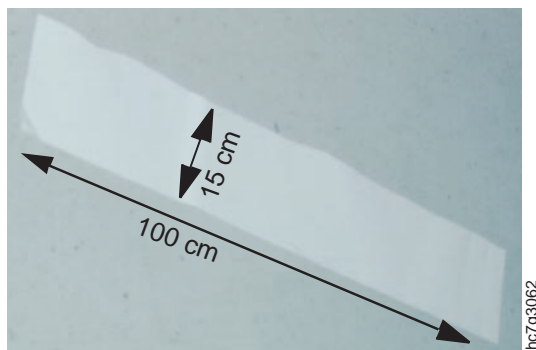

Figure 303. Cutting a Strip of Print Medium
4. Cut a strip of print medium (150 - 200 gsm) with measurements: ± 100 cm x 15 cm, as shown in Figure 303 on page 322.